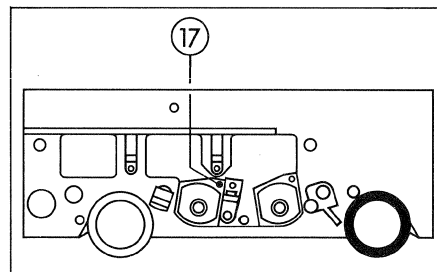

Fig. 5.16
10. Adjust record head by turning azimuth adjustment screw (17) Fig. 5.16 at slow tape speed to obtain optimum phase-angle difference.